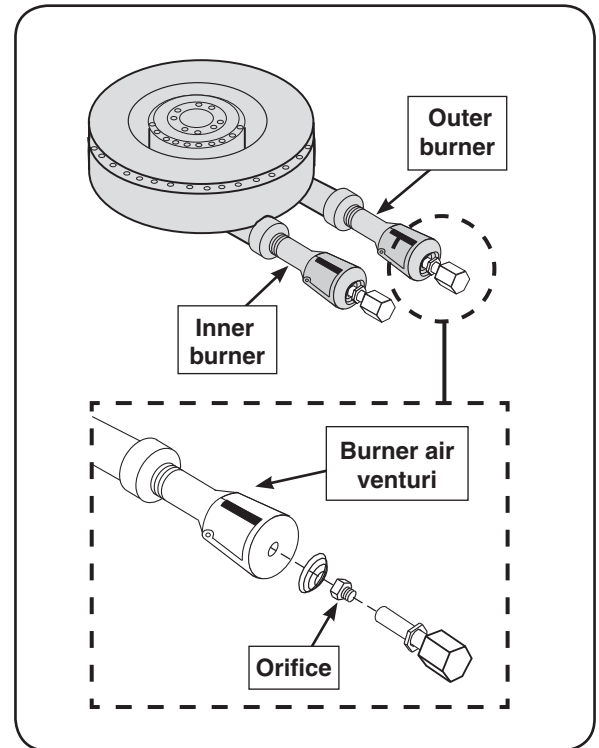

Fig. 32-1 Burner air shutter / orifice orientation
3. The orifice size is stamped on each orifice face (see Fig. 32-1).